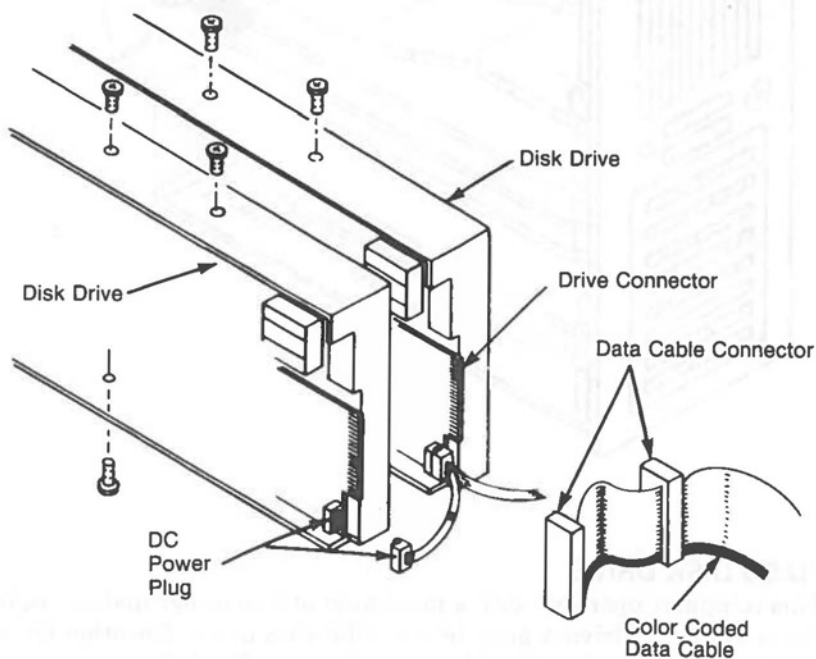

Figure 3-34 Drive Connectors
8. Align the top two mounting holes with the elongated slots on top of the drive bracket. Insert the two screws into the top mounting holes and drive holes and turn clockwise (see Figure 3-34).
10. Attach one keyed connector of the data cable from the drive kit to the mating connector on the drive (see Figure 3-34).